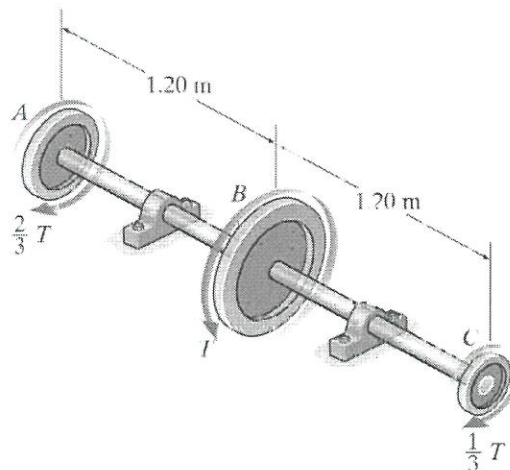

Figure Q3
- Q3** The 60-mm-diameter shaft in Figure Q3 is made of 6061-T6 aluminium ($G = 26$ GPa). If the allowable shear stress is $\tau_{allow} = 80$ Mpa, and the angle of twist of disk A relative to disk C is limited so that it does not exceed 0.06 rad, determine the maximum allowable torque T .